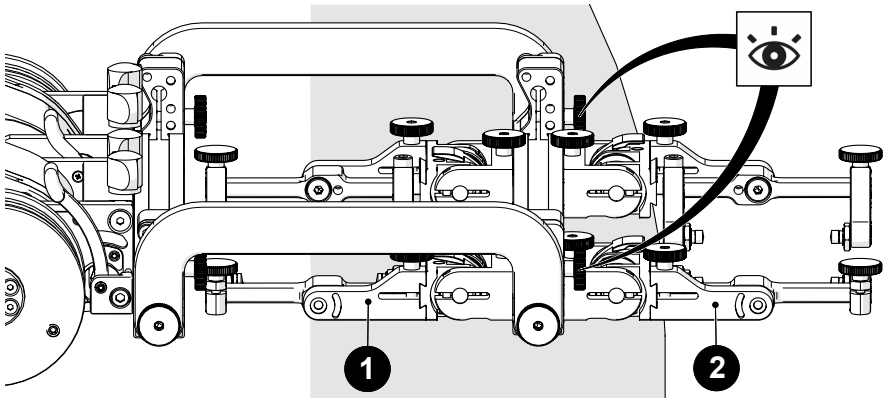

Fig. 212 - Position primary and secondary probe holders
3. Mount the low profile probe holder frame to the crawler (see Swivel Mount on page 48 for additional details). When mounting the low profile frame, ensure the attachment knobs (Fig. 212) are at the front (non crawler side).